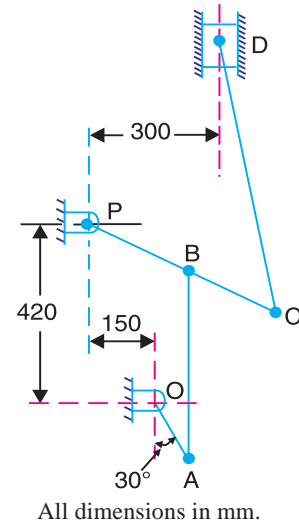

Fig. 8.14
**Example 8.7.** Find out the acceleration of the slider D and the angular acceleration of link CD for the engine mechanism shown in Fig. 8.14.